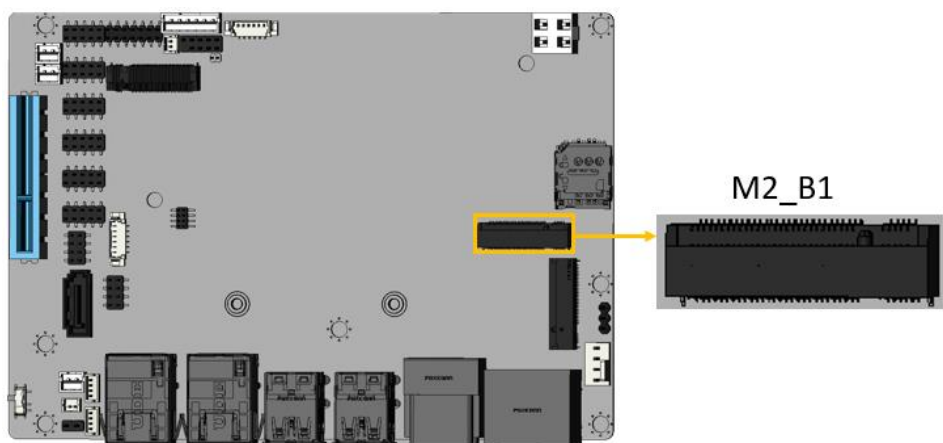

Figure 3-28: M.2 3042 B-key Slot Location
- CN Location:** See **Figure 3-28**